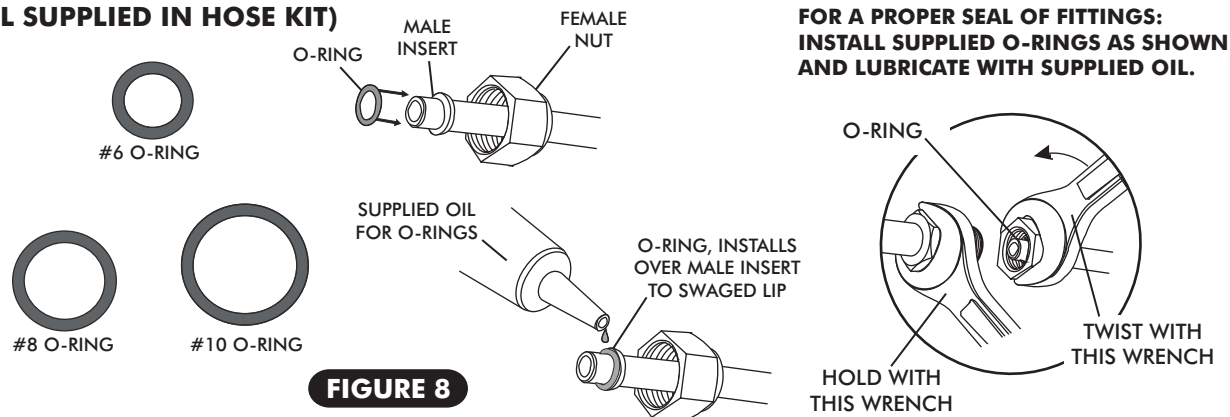

FIGURE 8
- ON A WORKBENCH, INSTALL EVAPORATOR REAR BRACKET USING (4) 1/4-20 x 1/2" HEX BOLTS.
- INSTALL HARDLINES WITH PROPERLY LUBRICATED O-RINGS (SEE FIGURE 5, PAGE 9, AND FIGURE 8, PAGE 11).
- ☐ LOCATE THE #8 COMPRESSOR A/C HOSE. LUBRICATE (2) #8 O-RINGS (SEE FIGURE 8, ABOVE) AND CONNECT THE STR FEMALE FITTING TO THE #8 DISCHARGE PORT ON THE COMPRESSOR. ROUTE THE STRAIGHT FEMALE FITTING w/ 134a SERVICE PORT TO THE #8 CONDENSER HARDLINE COMING THROUGH CORE SUPPORT. SEE FIGURE 11, PAGE 14. TIGHTEN EACH FITTING CONNECTION AS SHOWN IN FIGURE 8, ABOVE.
- ☐ LOCATE THE #10 COMPRESSOR A/C HOSE. LUBRICATE (2) #10 O-RINGS (SEE FIGURE 8, ABOVE) AND CONNECT THE #10 45° FEMALE FITTING w/134a SERVICE PORT TO THE #10 SUCTION PORT ON THE COMPRESSOR. ROUTE THE 45° FEMALE FITTING TO THE #10 EVAPORATOR. SEE FIGURE 10, PAGE 13, AND FIGURE 11, PAGE 14. TIGHTEN EACH FITTING CONNECTION AS SHOWN IN FIGURE 8, ABOVE.
- ☐ LOCATE THE #6 EVAPORATOR/DRIER HARDLINE. LUBRICATE (2) #6 O-RINGS (SEE FIGURE 8, ABOVE) AND CONNECT THE HARDLINE TO THE #6 DRIER HARDLINE COMING THROUGH CORE SUPPORT. ATTACH THE OTHER END OF THE HARDLINE TO THE #6 EVAPORATOR. HARDLINE COMING THROUGH THE FIREWALL. SEE FIGURE 10, PAGE 13, AND FIGURE 11, PAGE 14. TIGHTEN EACH FITTING CONNECTION AS SHOWN IN FIGURE 8, ABOVE.